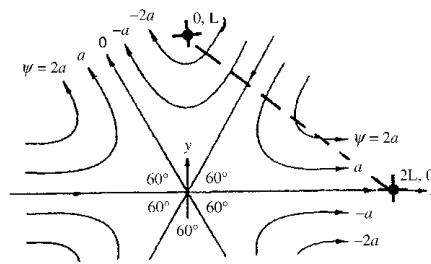

Fig. E4.7
**Solution:** This flow, with velocities  $u = \partial\psi/\partial y = 3U/L^2(x^2 - y^2)$ , and  $v = -\partial\psi/\partial x = -6xyU/L^2$ , is identical to Example 4.7 of the text, with “a” =  $3U/L^2$ . The streamlines are plotted in Fig. E4.7. The volume flow per unit width between the points  $(2L, 0)$  and  $(0, L)$  is